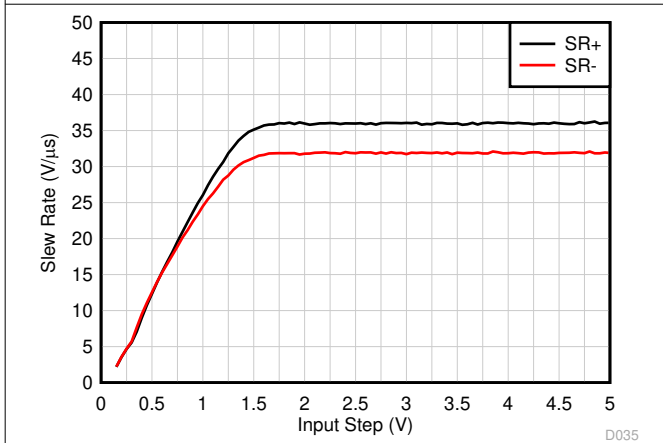

Figure 5-15. Slew Rate vs Input Step Voltage
- (1) Specified by characterization only.
(2) See Figure 5-15 for more information.